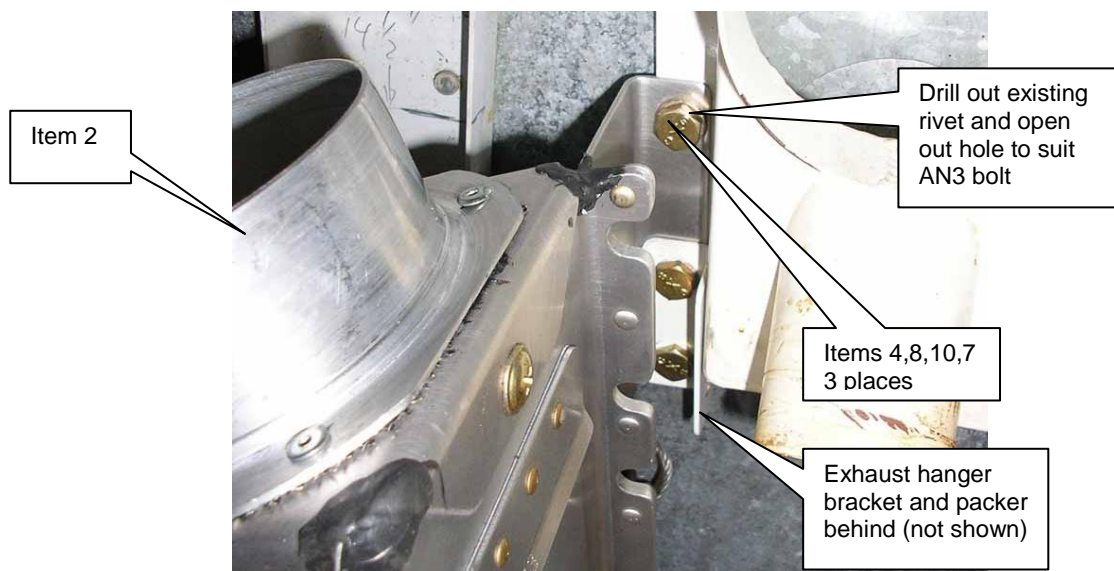

Figure 1
7. Drill out the 5/32" (3.97mm) rivet, directly above where the exhaust hanger bracket was (see Figure 1) and open out to suit AN3 bolt.
8. Place the new alternate airbox assembly over cabin heat valve assembly flange. Centrally align the 3 slotted holes. Refer to Figure 1.
- Remove the air intake plenum drain hose (3 sections and Tee piece), and replace with item 14 (one length of MIL-H-6000 ¼ hose 18.5 inches long).
- Attach the new alternate airbox assembly with retained exhaust hanger bracket, and spacer, using AN hardware supplied in kit (see Figure 1). Fit three AN970-3 washers and three MS21042-3 10-32 reduced hex nuts on the inside of the firewall.